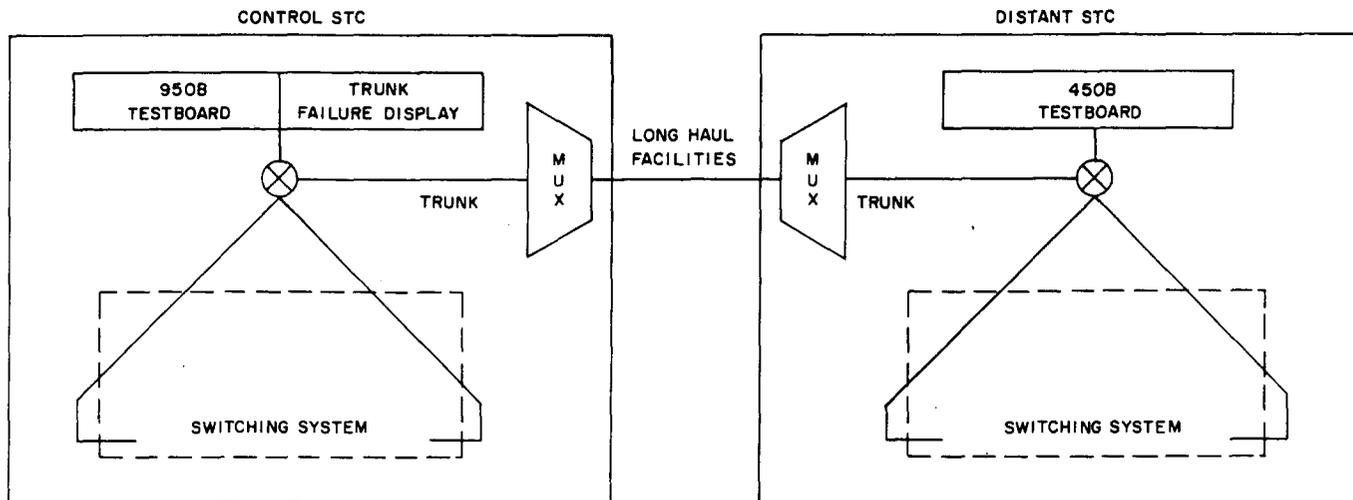

Fig. 1—Trunk Arrangement
2.01 Trunk turn-up procedures are coordinated by the STC which has responsibility for maintenance of the trunk; that is, the STC at which the trunk appears at the trunk failure display. This STC is designated the control STC, while the STC at the other end of the trunk is designated the distant STC. A simplified trunk arrangement is shown in Fig. 1.